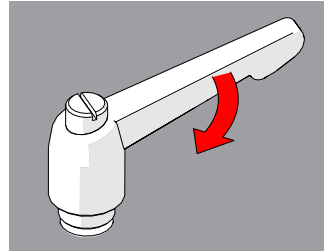

Fig. 59 - Tighten handle
3. Release the lever and utilize the new tightening position (*Fig. 59*).